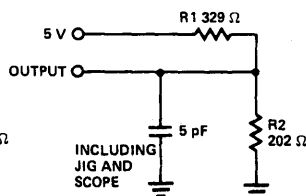

Figure 1b
6. tHZCS, tHZOE, tHZR and tHZWE are tested with CL = 5 pF as in Figure 1b. Transition is measured ± 500 mV from steady state voltage.